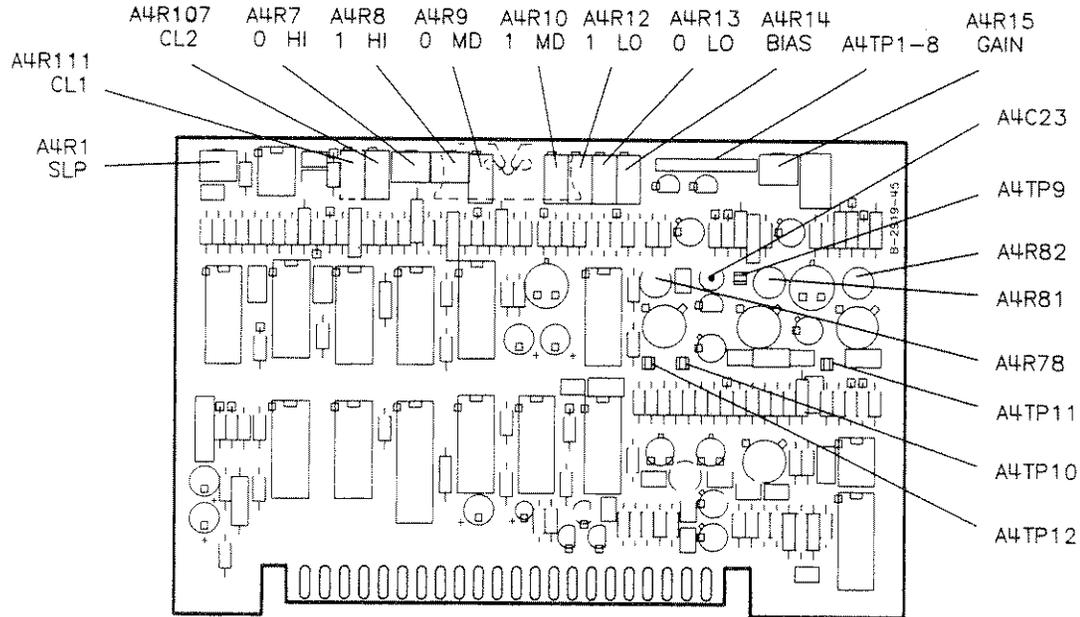

Figure 5-32. ALC Adjustment Locations
10. Measure the voltage between A4TP9 and A4TP10. See figure 5-32 for adjustment locations. Adjust A4R81 (OFS 1) for 0.000 ± 0.001 V dc.